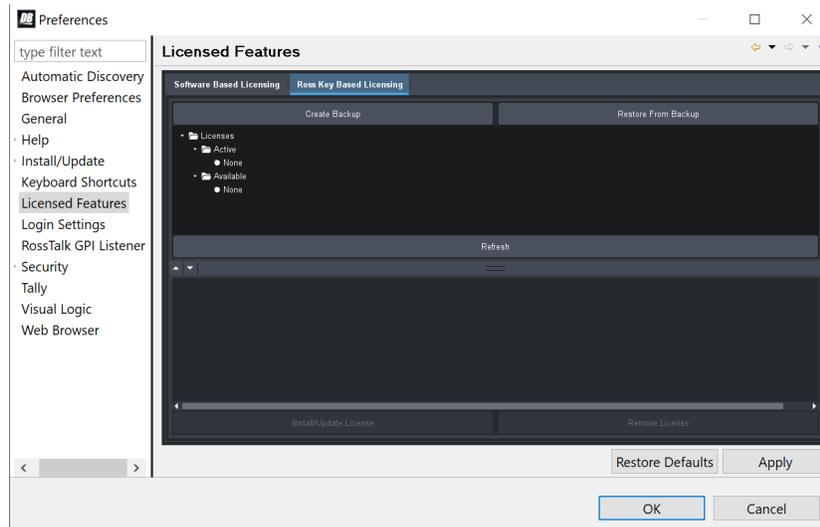

Figure 2 - DashBoard Licensed Features - Ross Key Based Licensing tab
1. From the main toolbar, select **Window > Preferences**. Refer to Figure 2.